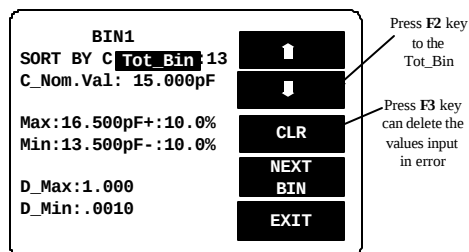

Figure 8-15
- Press  $\Delta$  key. Please refer to Figure 8-15 below.